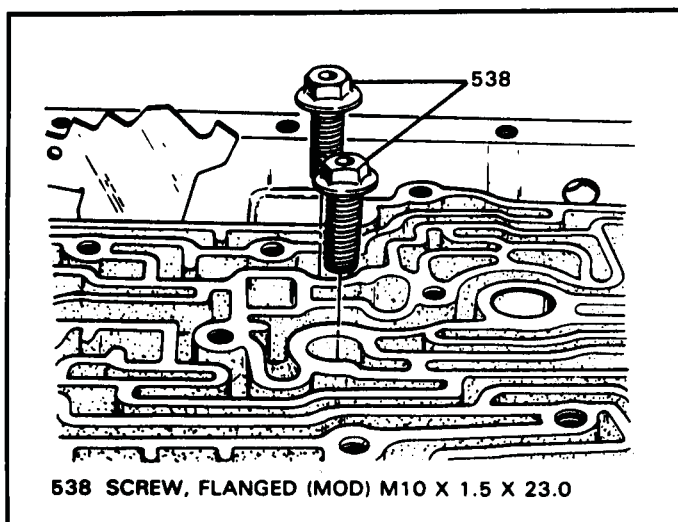

Figure 102
7. Install the two center support bolts, as shown in Figure 102, ***finger tight only***.
9. Torque the center support bolts to 18 ft.lbs. (See Figure 102).